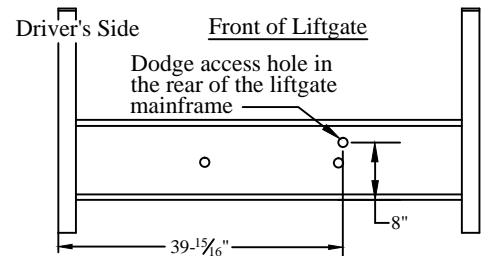

Figure 15: Spare tire access.
2. **Remove** the black plastic plug from the mainframe in the locations shown (Figure 15).